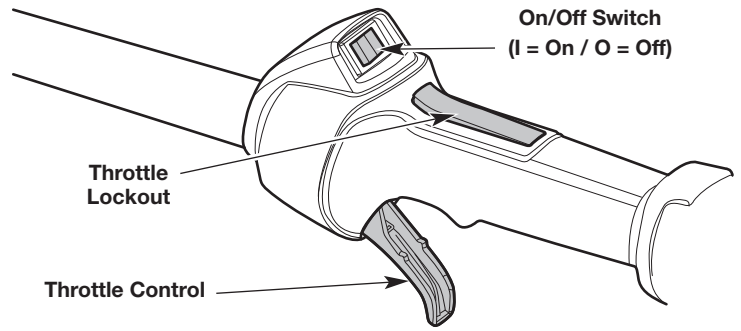

Fig. 19
NOTE: There is no need to turn the unit on. The On/Off switch is in the **On (I)** position at all times (Fig. 19).
NOTE: DO NOT squeeze the throttle control (Fig. 19) until step 6.
6. Press and hold the throttle lockout (Fig. 19). Squeeze the throttle control as needed for operation (Fig. 19).
2. Press and hold the On/Off switch in the **Off (O)** position until the engine comes to a complete stop (Fig. 19).